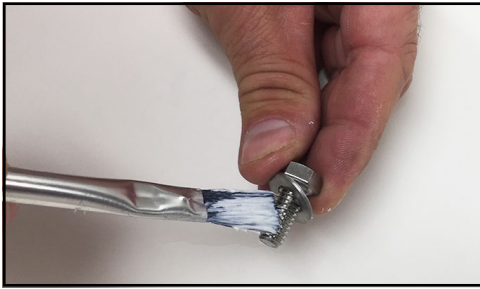

Figure 247 - Apply anti-seize
8. Add washers, then apply anti-seize to the gear case cover fasteners as shown in Figure 247.